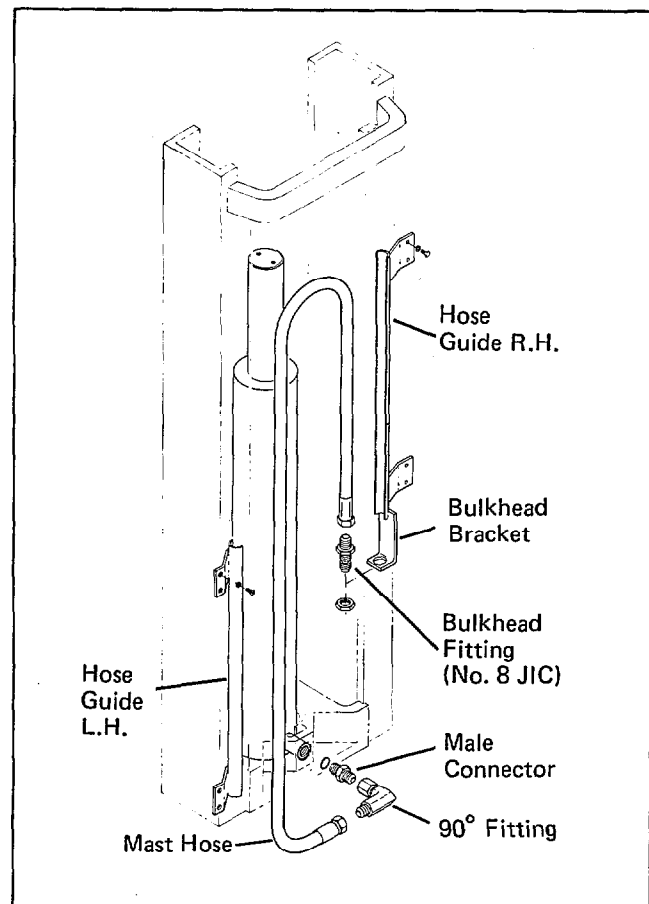

Figure 1-5 Mast Hoising
See Figure 1-5.
NOTE: The right hand hose guide has a bulkhead bracket welded to the bottom. See figure 1-5.
5. Attach a 90° fitting to the male connector as shown in figure 1-5.
8. Loop the hose in the hose guides as shown in figure 1-5.